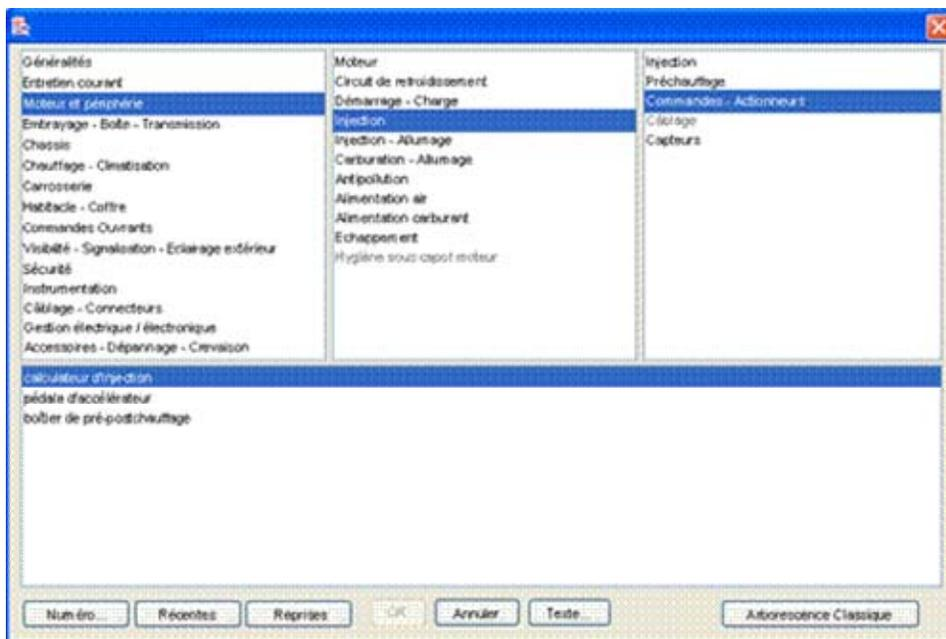

Figure 3: access menu for repair manuals (and Technical Notes)
- For Dialogys 3000 vehicles (Clio 3, Mégane 2, Scénic 2, Logan, Laguna 3 and forthcoming vehicles), the folder structure in figure 3 appears by default.
You can also run a search by selecting a series of options from the special MR/Technical Note menu (figure 3).